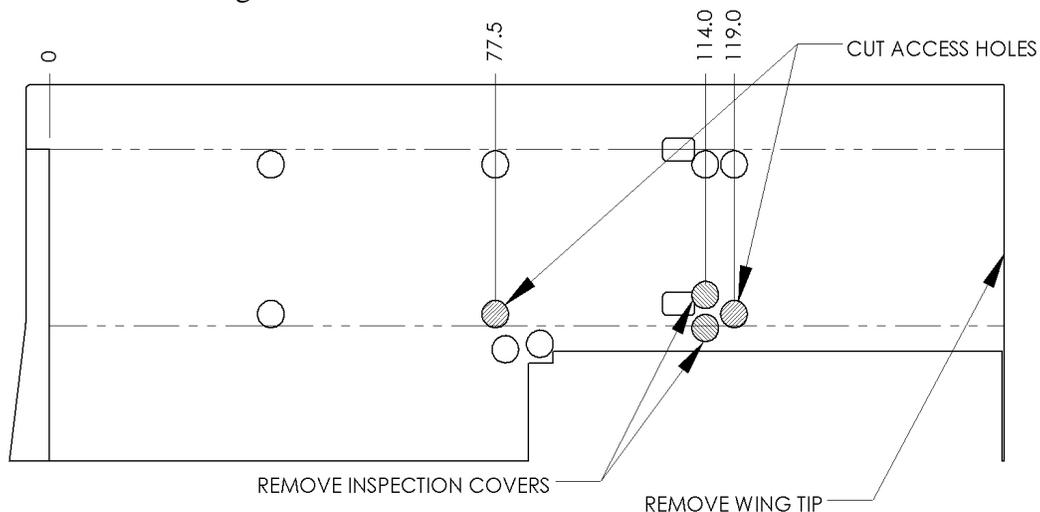

Figure 2, Wing Inspection Locations
3. Open access holes on the bottom of the wing at stations 77.5 and 119.0 as measured from the wing butt rib (2 locations per wing). The access holes are shown in figure 2. Opening the access holes is optional provided an equivalent inspection can be conducted (i.e. borescope).
4. Remove inspection covers located on the bottom of at wing station 114.0. Inspection cover location is shown in figure 2.